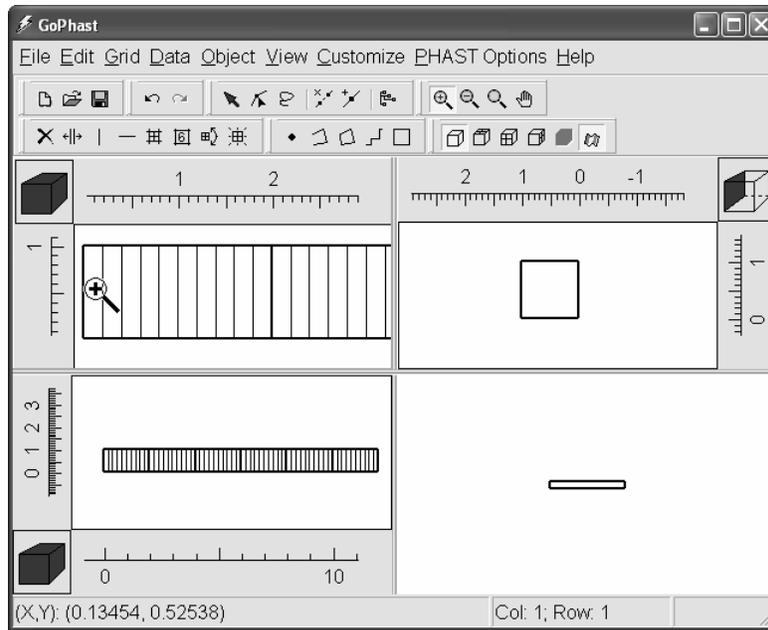

Figure 33. Appearance of model in example 1 after zooming in on the left side of the top view of the model.
- First zoom in on the left side of the model by selecting **View|Zoom In** and then clicking on the left side of the top view of the model (fig. 33).